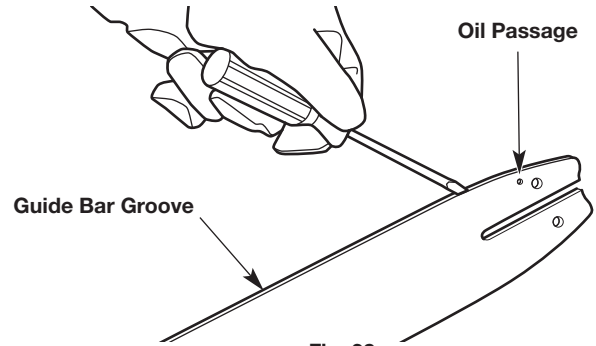
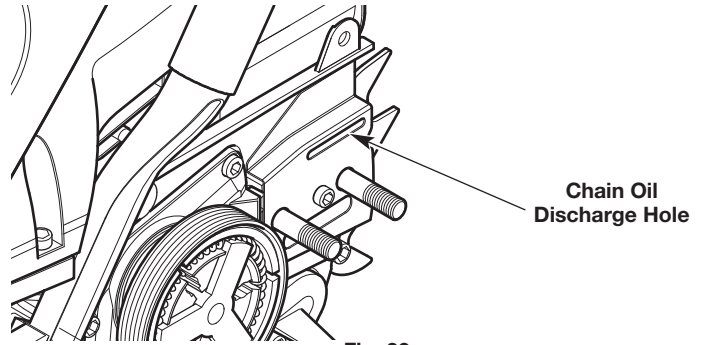

Fig. 38
Fig. 39
2. Clean the guide bar groove and oil passages whenever the saw chain is removed, when the unit has been used heavily or when the saw chain appears dirty. Use a screwdriver, putty knife, wire brush or similar instrument to remove debris from the guide bar groove (Fig. 38). Use a small, soft wire to remove any debris from the chain oil discharge hole (Fig. 39).